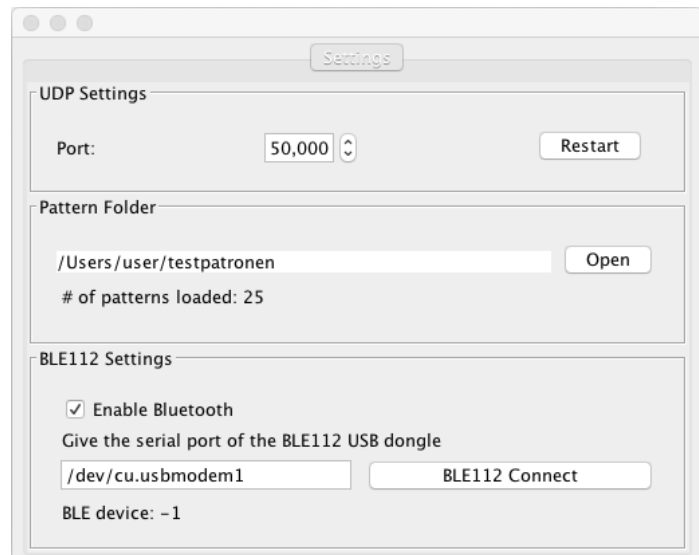

Figure 4 – Elitac HIDCom Settings for Windows, Mac OS X and Linux.
- a. UDP Settings: Modify the UDP settings according to Figure 4
- f. **Bluetooth:** Enter the COM port number in the “BLED112 settings” (Figure 4) using “COM<#>”.
- f. **Bluetooth:** Enter the device name in the “BLED112 settings” (Figure 4).
- f. **Bluetooth:** Enter the device name in the “BLED112 settings”(Figure 4)